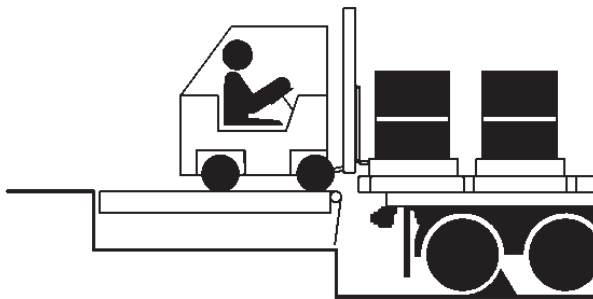

Figure 19
4. If transport vehicle bed is at or above dock floor level, leave leveler at the cross-traffic position and proceed with loading or unloading (see Figure 19). If transport vehicle bed is below the dock floor level, continue with Step 5.